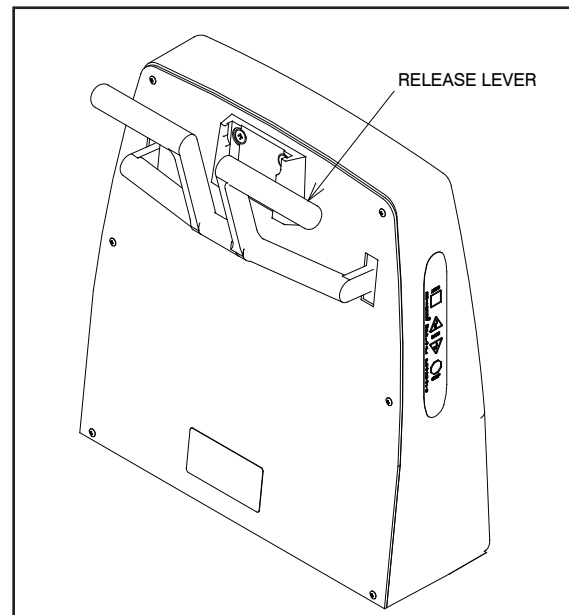

FIGURE 4
- The chair back may be reclined or raised by either pushing downward or pulling upward on the release lever (Figure 4).